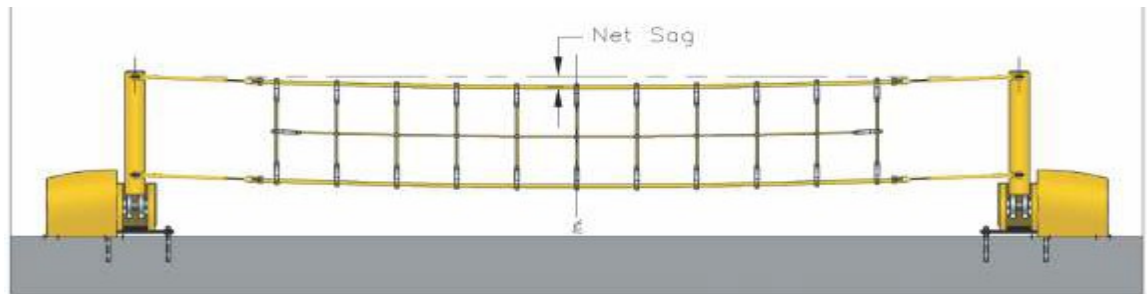

Figure 8d
*Measure the sag by running a string (see dotted line in Figure 8d) between the two net lifting arm pad eyes, Figure 8d, and measure the difference between the string and the center of the net as shown*